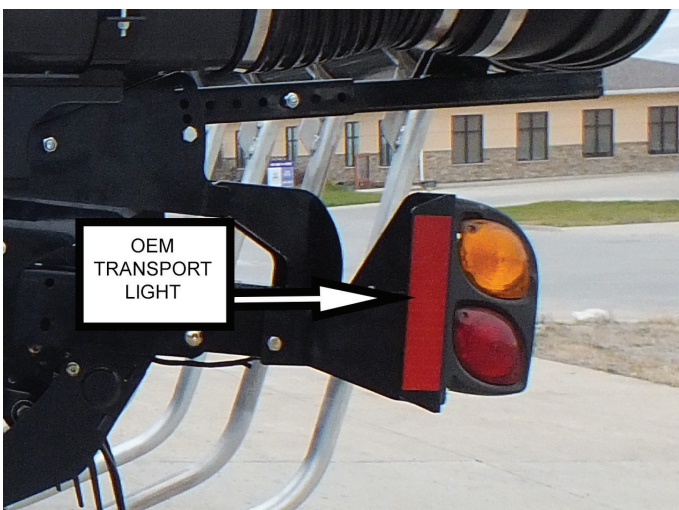

Figure 30: Transport light
1. Remove transport light and save hardware for reinstalling later (Figure 30).